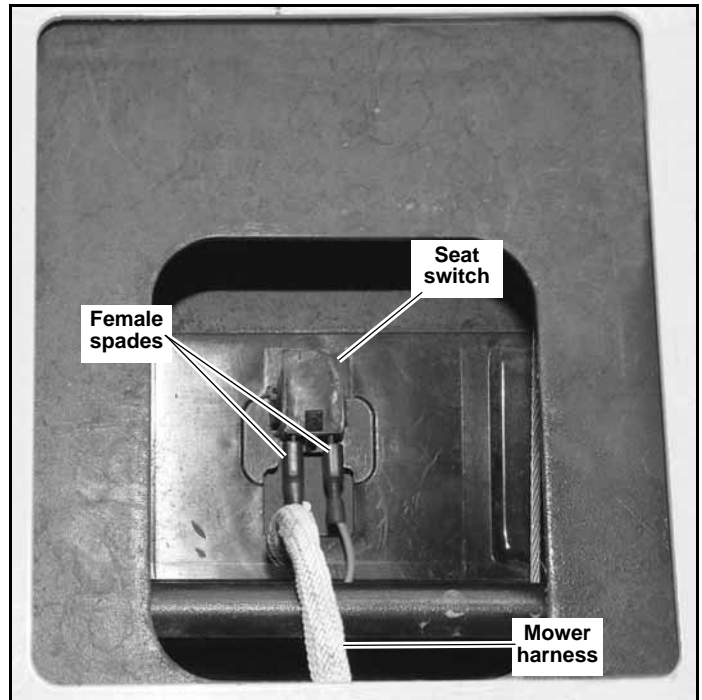

Figure 4-1
connecting the two mower harness female spades together. Figure 4-1
12. **IMPORTANT:** With the engine off, disconnect the two female spade connectors from each other (from step #3) and reconnect them to the seat switch. This must be completed so that the safety circuit is functioning properly. Figure 4-1